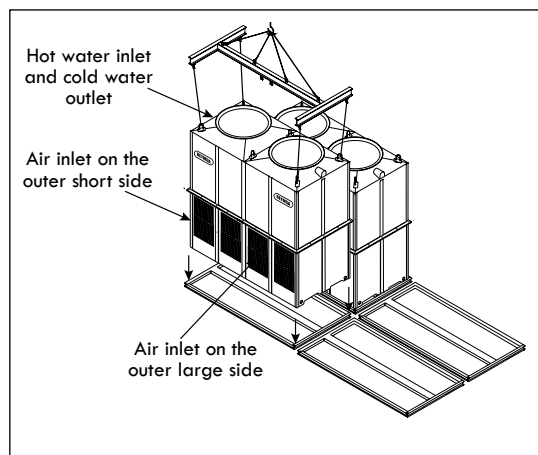

Figure A-76: X-Orientation - Second T2 module lifting and installation (RTM or RTPM Models)
- C.** Lift the second module and place it on top of the isolation pad and the steel structure, making sure that the side without air inlets is facing inward, parallel to the long side of the first module, and that the water inlet and outlet are facing outward. Secure it with the galvanized steel nut and bolts sets (supplied by others) as shown on Figure A-76.